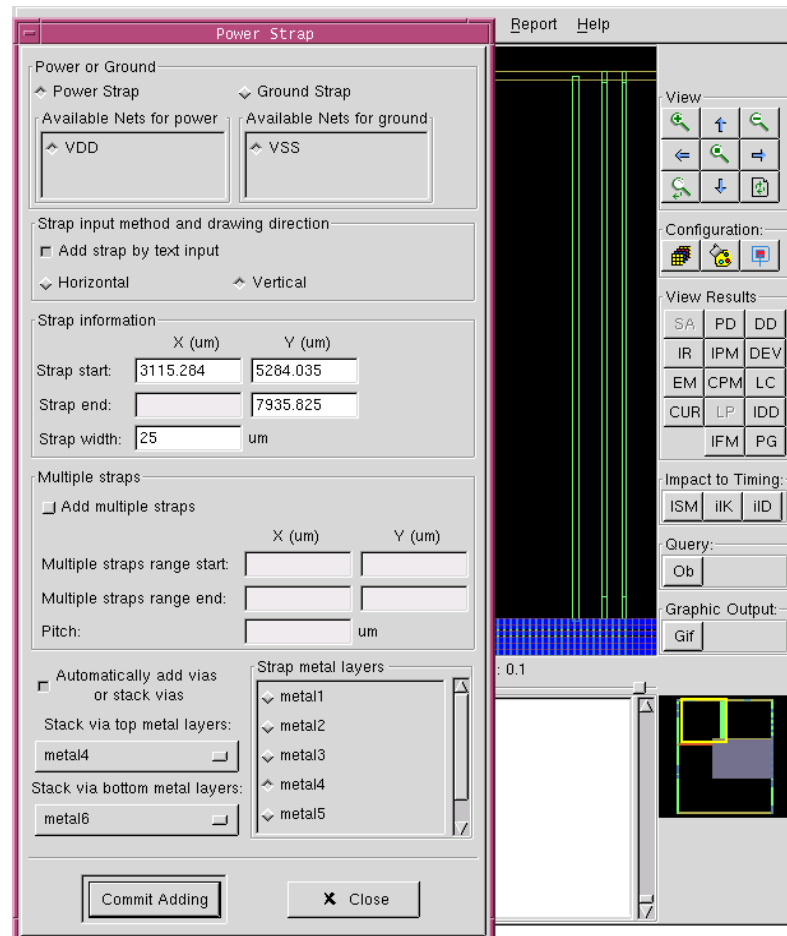

Figure 7-3 Adding multiple straps with **Add multiple straps**
7. Click on **Commit adding** when the specification and drawn straps are correct (there is no undo function). If there is a physical error or short, an error message will be displayed. A successful strap addition is illustrated in Figure 7-3.